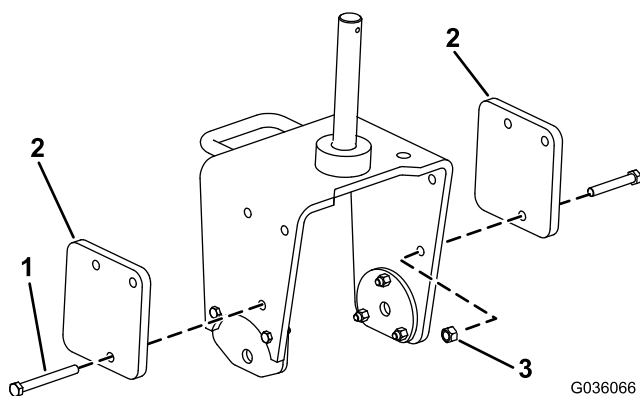

Figure 2
2. Attach a weight to each side of the castor fork using 3 bolts and 3 locknuts for each side (Figure 2).